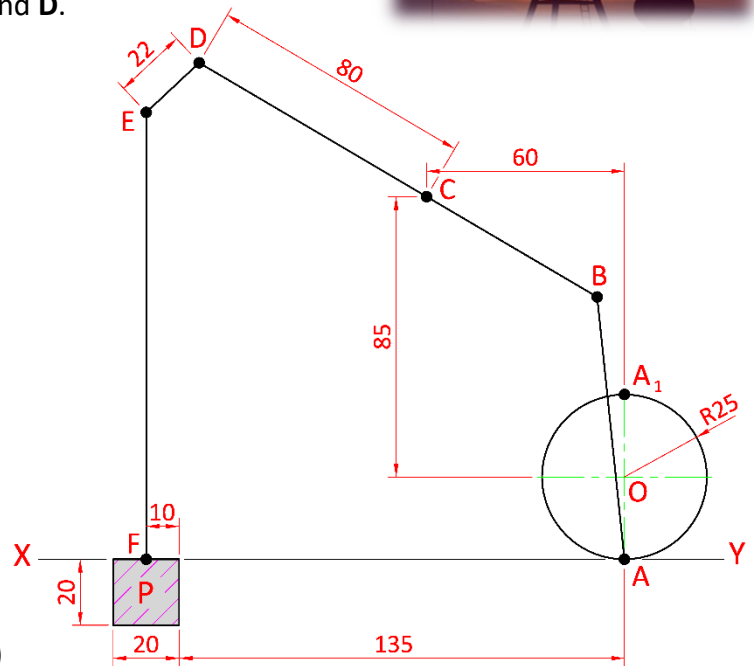

Fig. C-4(a)
- (b)** The image on the right shows a modern electric unicycle. The wheel is shown in line diagram format in Fig. C-4(b) below.